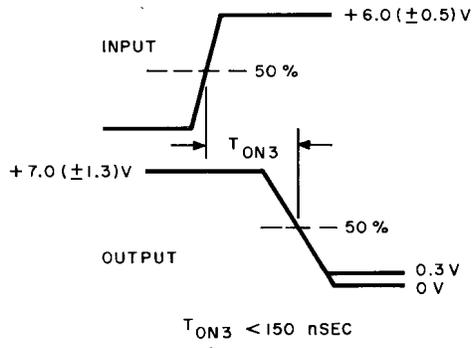

Fig. 51A — EIA Interface Test
- (3) Rotate the switch to position 10. The input-output waveforms shall be as specified in Fig. 51A.